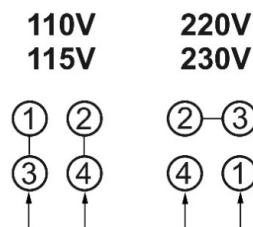

Figure 6-2: voltage conversion
1. Open main motor junction box cover and change leads based on wiring diagram inside cover. This diagram is also shown in Figure 6-2. (NOTE: In case of discrepancy, diagram on machine takes precedence.) Reinstall cover.
3. (**Model HVBS-10DMWC only:** Remove coolant pump junction box cover, and change incoming leads for coolant pump, based on diagram shown in Figure 6-2. Reinstall cover.)